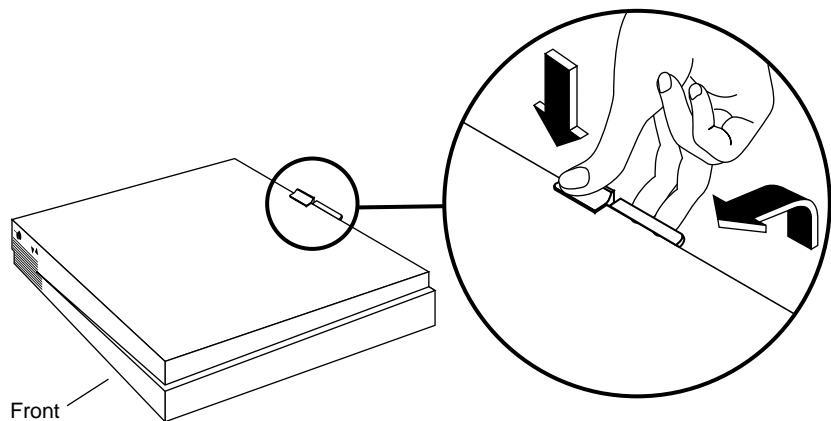

Figure 3 Removing the top cover from the Indy workstation
3. Facing the front of the Indy workstation, place your right thumb on the small channel at the back of the cover, and your second and third fingers under the finger ledge, as shown in Figure 3.